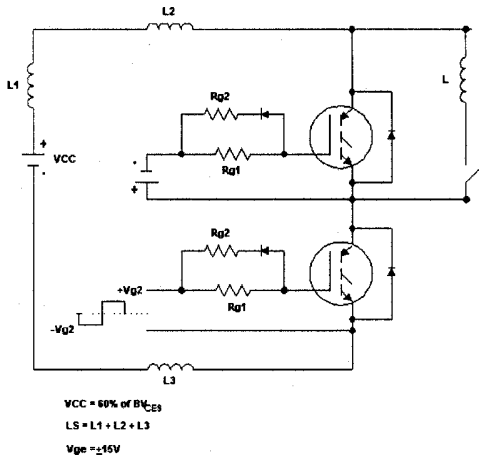
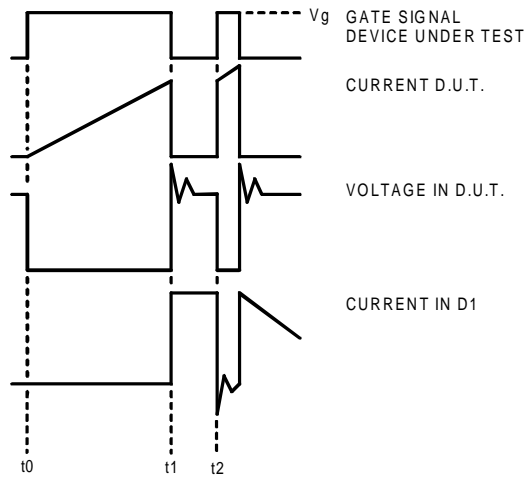

Fig. 17 - Test Circuit for Measurement of I_{LM} , E_{on} , $E_{off}(\text{diode})$, t_{rr} , Q_{rr} , I_{rr} , $t_{d(on)}$, t_r , $t_{d(off)}$, t_f
Figure 21. Macro Waveforms for Figure 17's Test Circuit
| E_{on} | Turn-On Switching Energy | — | 54 | — | mJ | See Fig.17 through Fig.21 |
- ① Repetitive rating; $V_{GE} = 20V$, pulse width limited by max. junction temperature.
- ② See fig. 17
- ③ For screws M5x0.8
- ④ Pulse width 80 μ s; single shot.